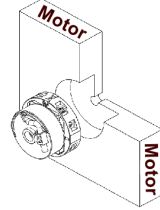

Figure 3-10
- 4) Remove the M10\*20 screw and the M5\*50 screw in sequence, then take off the encoder, as shown in Figure 3-10.